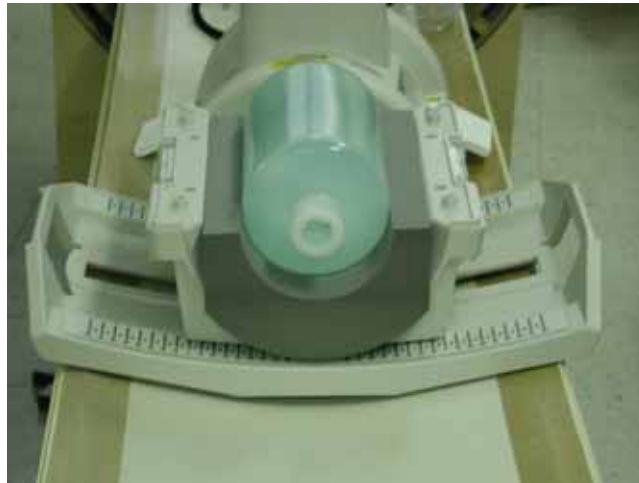

Figure 2: Phantom positioning
3. Center the coil within the baseplate and place the phantom in the phantom positioner as shown in Figure 2.